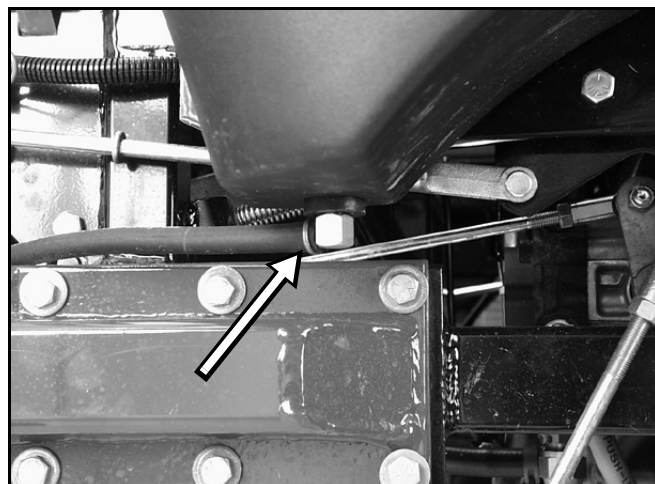

Figure 95
8. Remove the fuel line from the fitting at the front of the tank (Figure 95).